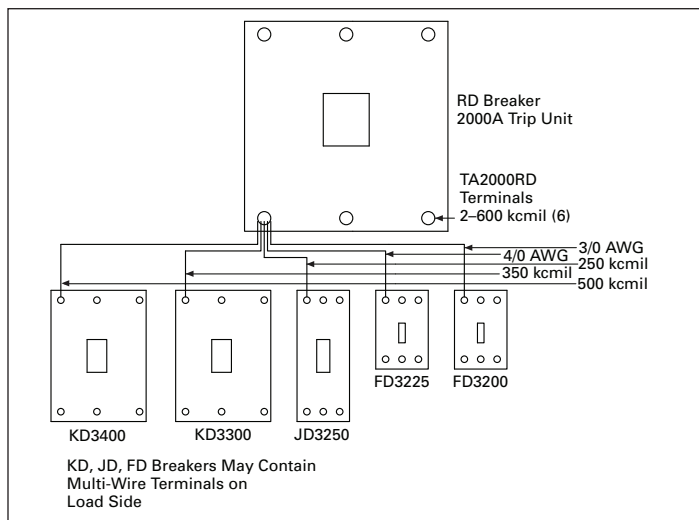
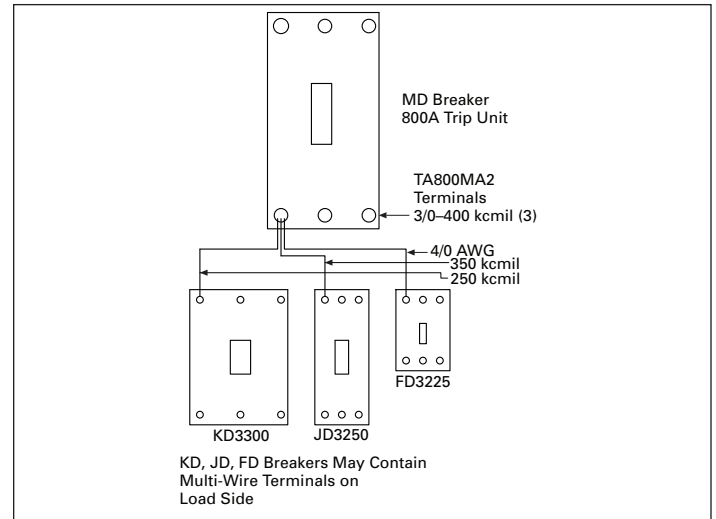
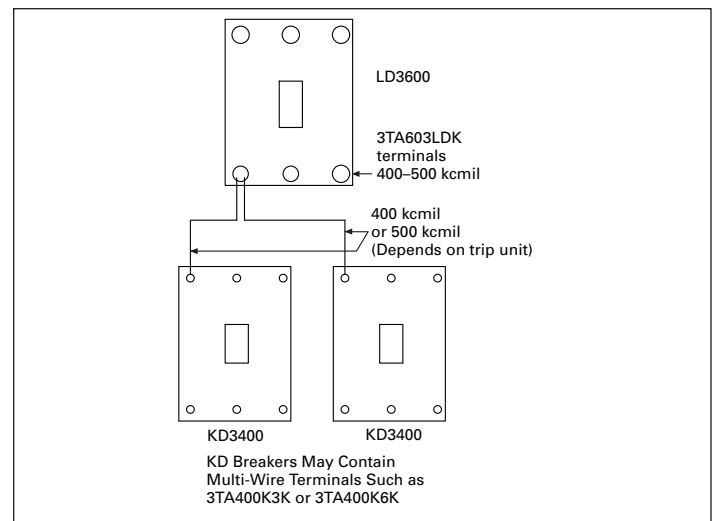

Figure 6. RD Breaker
Figure 7. MD Breaker
Figure 8. LD Breaker
Figure 6, **Figure 7**, and **Figure 8** provide additional examples of taps to serve lower-ampacity loads from higher-ampacity circuit breakers, only from a different series of circuit breakers, the Series C®. The rules remain the same as for any other tap.
The RD circuit breaker in **Figure 6** has five smaller breakers tapped from its terminals. One may actually tap six breakers because the terminals for the RD breaker will accept six conductors. The terminal capacity is for 6-2 AWG to 600 kcmil. Consequently, a circuit breaker as large as 450 amperes can be tapped from the RD breaker using a single, 600 kcmil conductor. NEC 240.4 (B) permits sizing to the next higher standard rating shown in 240.6 if the conductor rating is not equal to a standard rating; the maximum OCPD cannot exceed 800 amperes. UL 508A does not offer a similar exemption.
Taps as small as 80 amperes can be made from the MD breaker in **Figure 7** when an 800 ampere trip unit is used; however, the smallest conductor is limited to 3/0 AWG due to the lower size limit for the terminals. By changing the trip unit to 600 amperes, conductors as small as 1 AWG can be tapped from the breaker.
Figure 8 illustrates an LD breaker used as a main or feeder. As was true in **Figure 6** for the RD breaker, a circuit breaker with a 450 ampere trip unit can be tapped from the LD circuit breaker by using a single, 500 kcmil conductor. UL 508A does not offer a similar exemption.